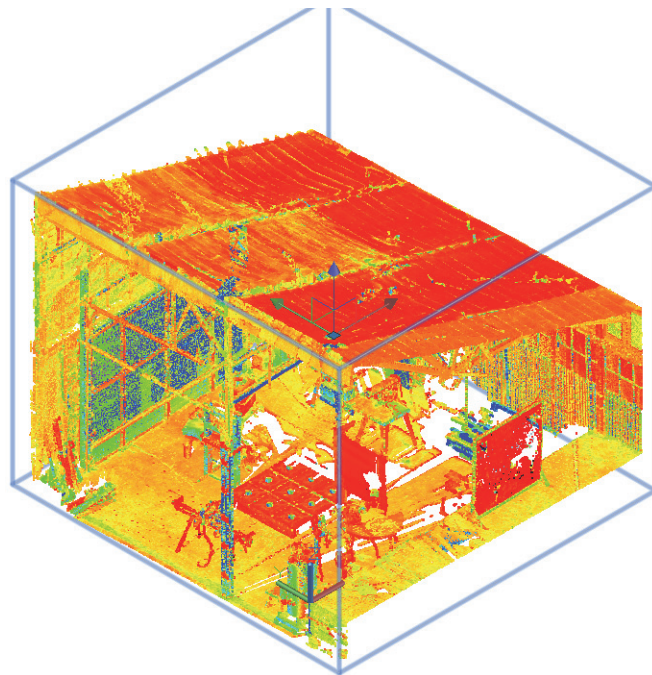

Figure 9–24
4. The color scheme should display in multiple colors, as shown in Figure 9–24.